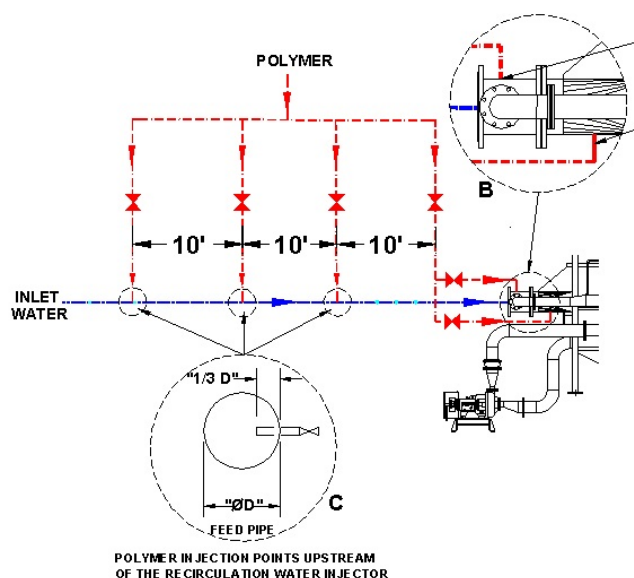

Figure 4 Recirculation Injector Installation
4. Connect the flocculant line to the recirculation injector dosing points. (Refer to **Figure 4**)
Install one pressure gauge (0-150 psig) just before the release valve (Figure 4) and another one at the POSEIPUMP® discharge.